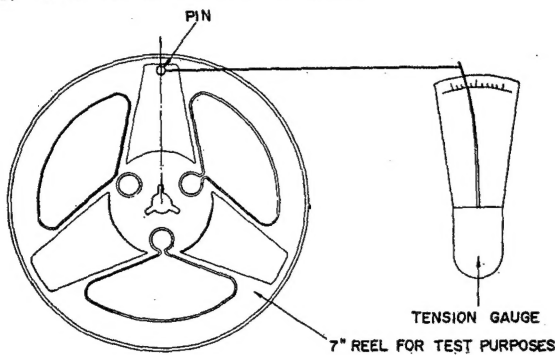

Figure 10
- A. Proper Tensions are as follows: (Refer to Figure 10)